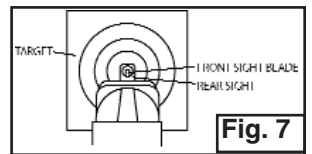

Fig. 7
- The soft air gun is correctly aimed when the front sight blade is positioned exactly in the center of the rear peep sight. The bulls-eye should appear to rest on the top of the front sight. (Fig. 7)